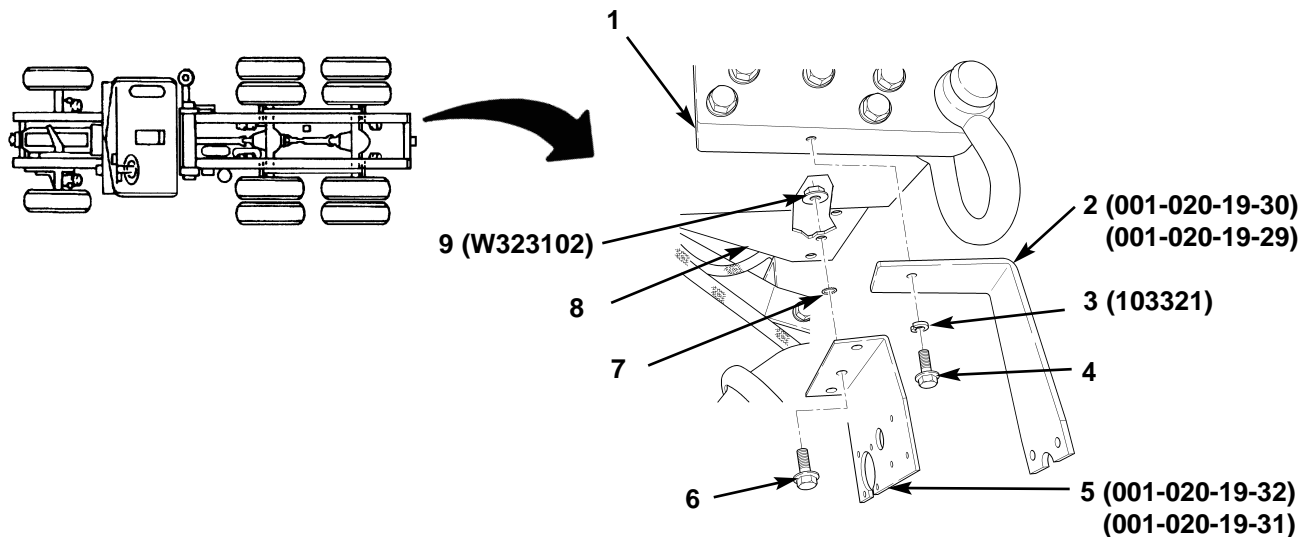

Figure 72. Installing Rear Exterior Lighting Brackets.
1. Install new tail light mount (figure 72, item 5) on rear frame section and bracket (figure 72, item 8) with new star washer (figure 72, item 7), three bolts (figure 72, item 6), and new locknuts (figure 72, item 9).
2. Install new blackout light mount (figure 72, item 2) on rear shackle mounting bracket (figure 72, item 1) with new lockwasher (figure 72, item 3) and screw (figure 72, item 4).
3. Repeat steps 1 and 2 of installation of right-hand mounting brackets (figure 72, items 2 and 5).